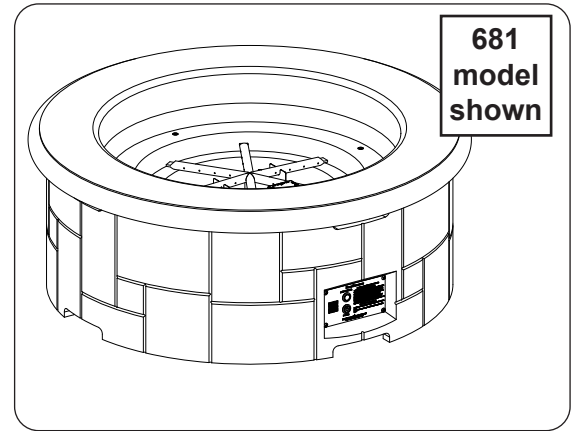

Fig. 25-1 Place unit
1. **CAREFULLY** place unit in an appropriate location (see Fig. 25-1, and refer back to the LOCATION section if needed).